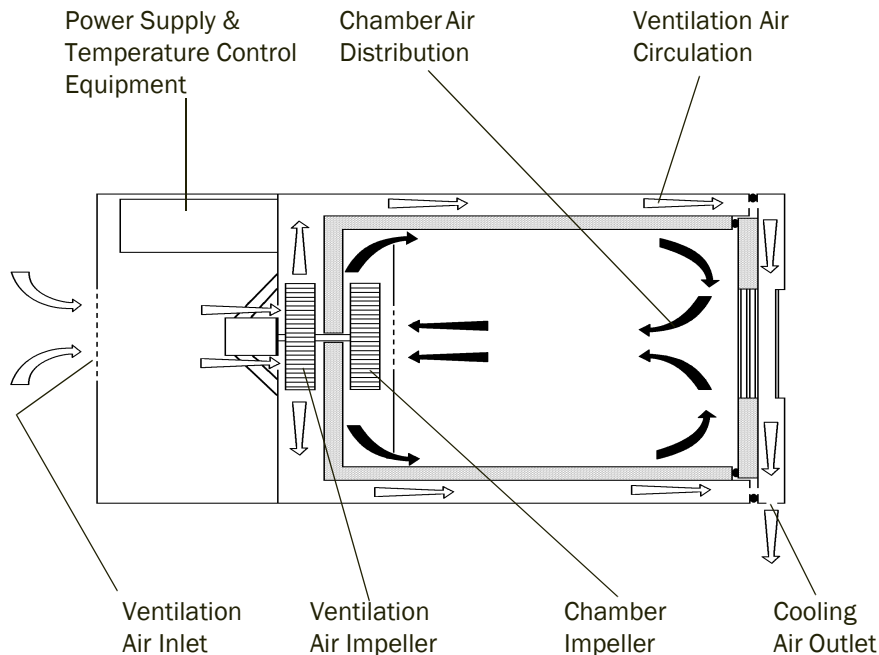

Figure 10. Temperature Cabinet Air Circulation
- The air circulation from the centrifugal fan within the inner chamber and from the impeller near the motor, is shown in Figure 10. The internal air is directed in a figure of eight from the heaters behind the baffle over the load train pull rods of the testing machine, across the specimen and back to the internal impeller via the alarm and control thermocouples. This air flow enables the heat losses (or gains) from the testing machine pull rods to be counterbalanced before the air circulates over the specimen at the centre of the load train. The control thermocouple is thus usually closely connected to the specimen by a short air stream. Provided the heat losses for the load train are not excessive and the system has been allowed to reach thermal equilibrium the thermocouple temperature is usually a close representation of the specimen temperature. If you are especially concerned about the specimen temperature, then a suitable measurement thermocouple should be attached to the specimen.